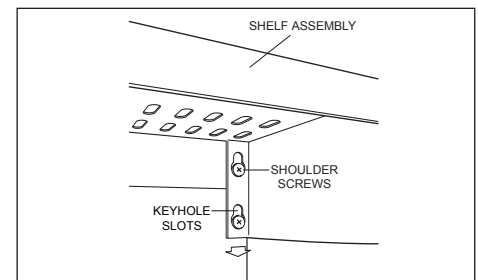

Figure 6
3. Slide shelf assembly into place and tighten shoulder screws if necessary (See Fig. 6).